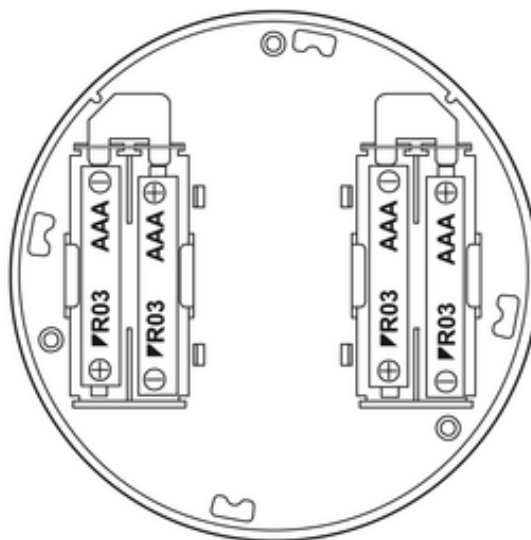

Figure 8
- Insert new batteries. Note the correct polarity (Figure 8).